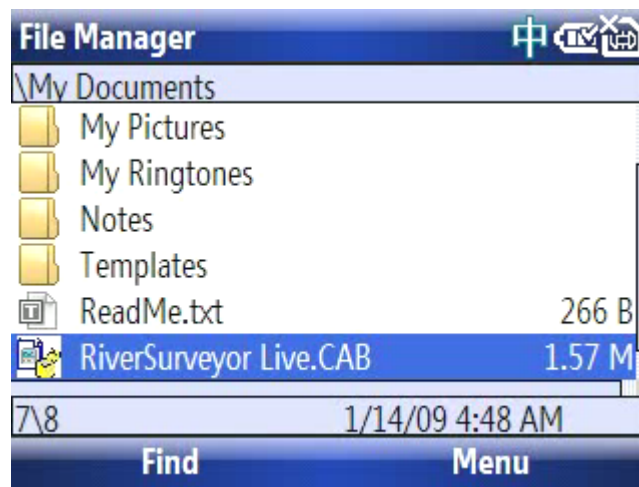

Figure 60. File Manager Menu - My Documents
6. In the Mobile device, use File Manager to open My Documents (Figure 60).